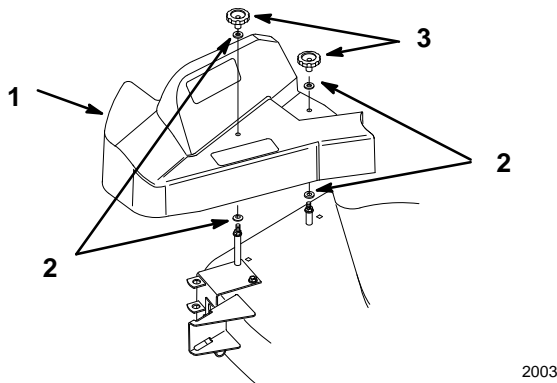

Figure 27
- Remove the blower belt cover by removing (2) knobs (International lock nuts) and (4) washers (Fig. 27).